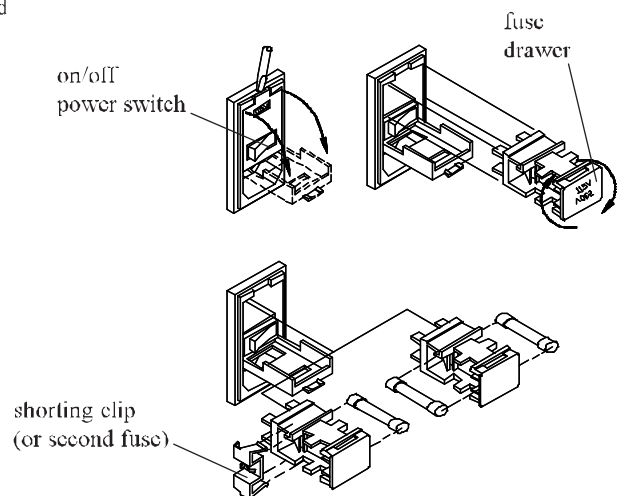

Figure 5-2. 115V 230V Fuse Drawer
Note! The fuse holder on the power-entry module contains the fuse drawer (Figure 5-2), which allows for either 115 or 230 VAC operation.
- 1f. **For line-to-neutral operation**, use the shorting clip and one fuse or two fuses. (The shorting clip must be on the left side of the drawer when rotated to the correct voltage position as shown in Figure 5-2.) **For line-to-line use**, discard the shorting clip and use two fuses.